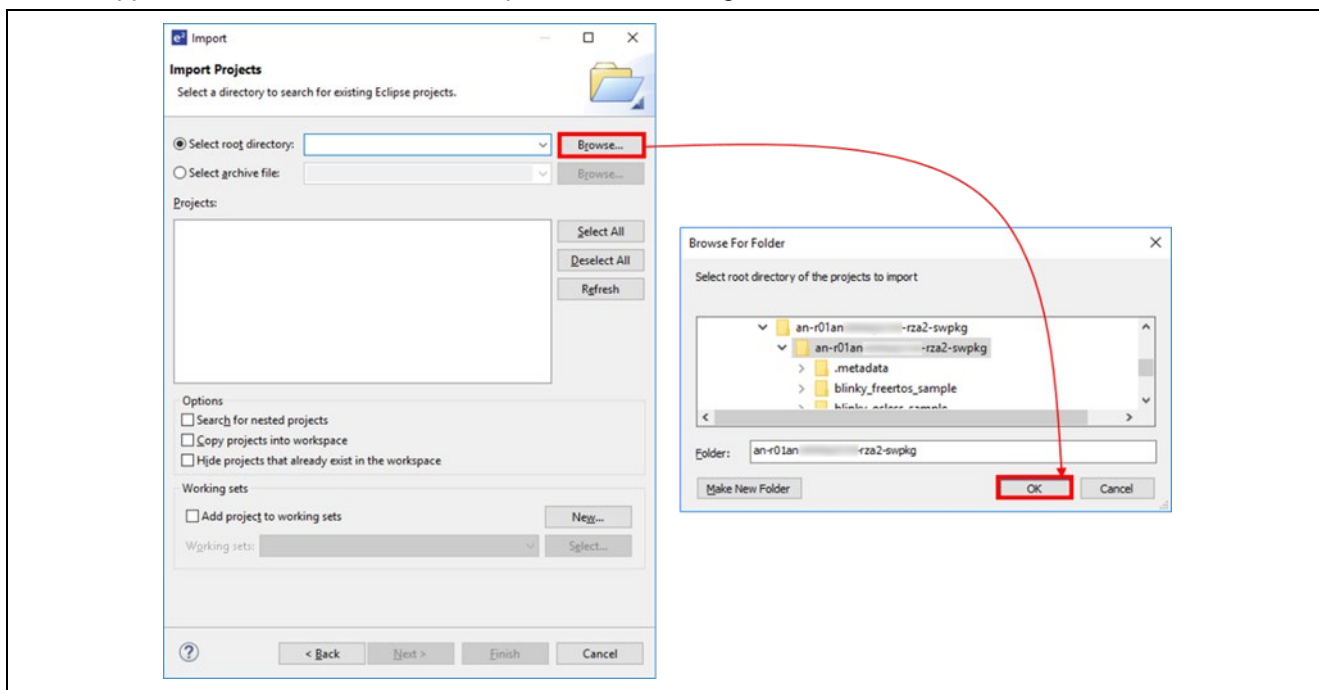

Figure 3-5 Select root directory
- Select "Browse" at the right of "Select root directory:", and "Browse for Folder" dialog box will be appeared. Click "OK". These 2 steps are shown in Figure 3-5.